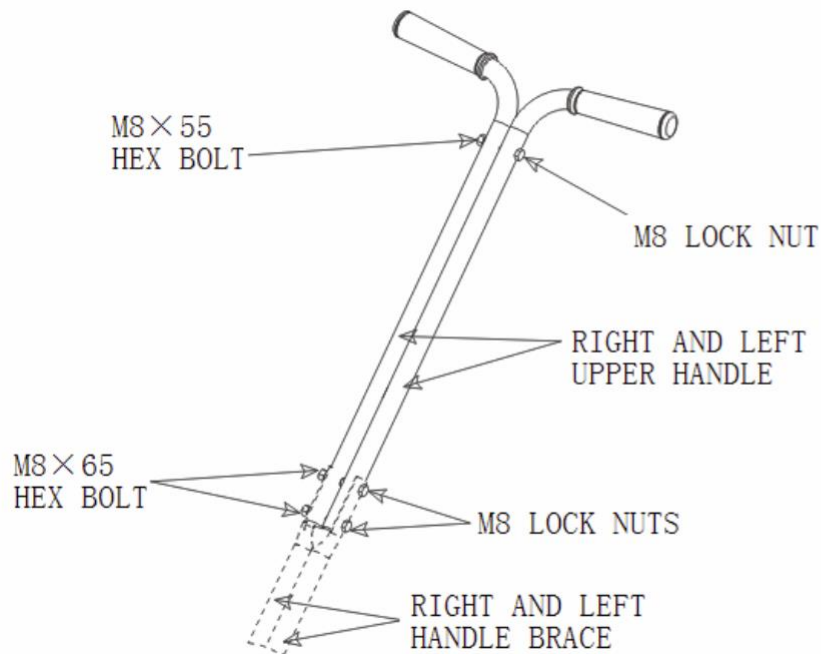

FIGURE 4
4. Attach the right and left upper handles (Part 1) to the handle braces (Part 3) with two M8x65 hex bolts. Hand tighten the nuts (Figure 4).
6. Tighten all four bolts and nuts (Figures 4 and 5).